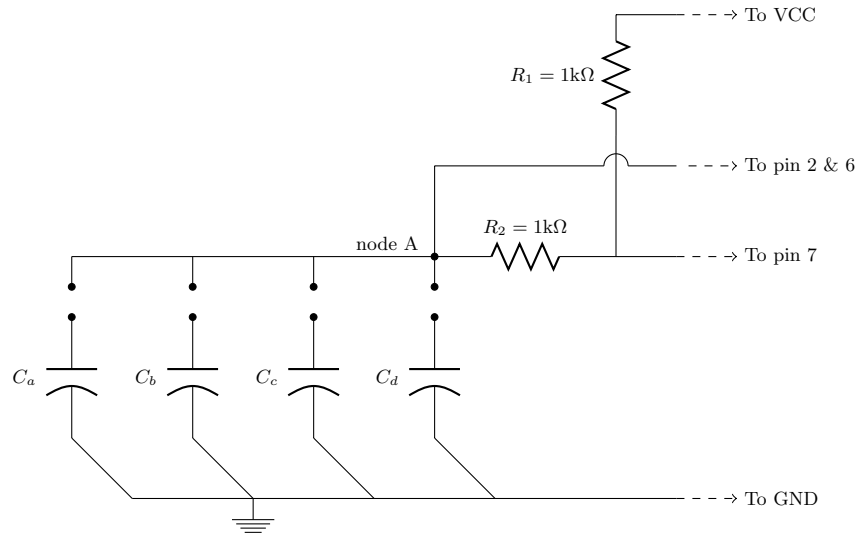

Figure 2: Capacitor bank for multi-range 555 frequency source
- Draw a schematic. Use Figure 2 as an example of how to draw it. In this application, a jumper wire is used to select which capacitor will be used by connecting "node A" to the desired capacitor. When you build the circuit you will not use a bank, you'll simply replace the capacitor with another one.